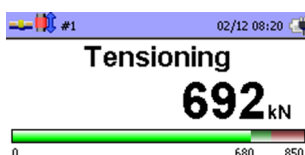

Fig. 18: Control unit display
⇒ The tensile force achieved is within the tolerance window and the control unit (BE) indicates Fig. 18.